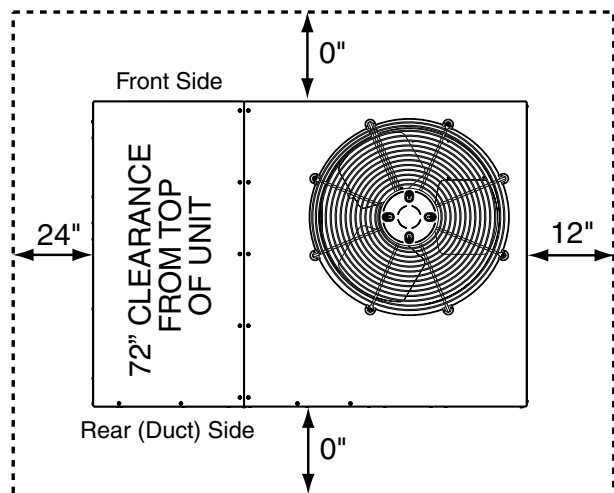

Figure 1. Minimum Unit Clearances
- Sufficient clearance for unobstructed airflow through the outdoor coil must be maintained in order to achieve rated performance (except on supply & return duct (rear) side). For minimum clearances to obstructions, see Figure 1.
Minimum clearances **MUST** be maintained from adjacent structures to provide room for proper servicing and air circulation. **DO NOT** install unit in a confined or recessed area that will allow discharge air from the unit to re-circulate into the condenser air inlet, through the coil. See Figure 1.